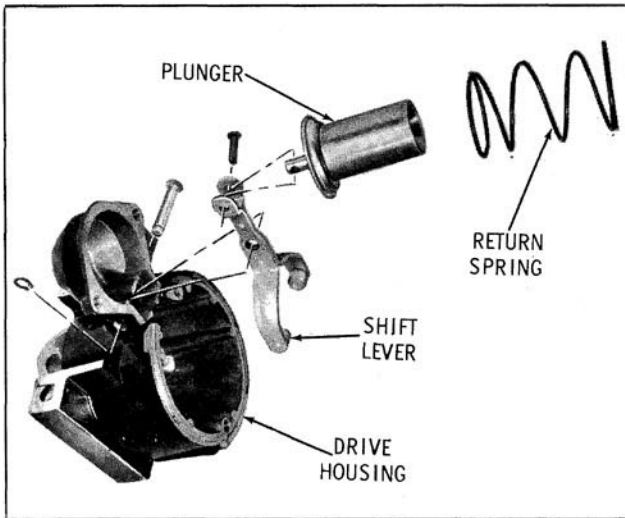

Fig. 13-53 Shift Lever Assembly
- b. To remove shift lever and/or plunger, remove shift lever pivot bolt. (Fig. 13-53)
- b. Position shift lever and plunger assembly in drive gear housing and install lever pivot bolt. (Fig. 13-53)